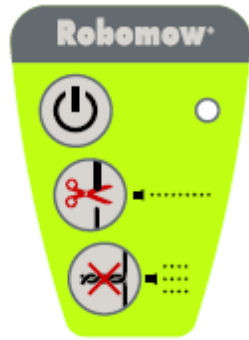

Figure 1.23 -
- Align the Base Station on the Perimeter Wire, so the wire is aligned with the two central lines marked at the front and rear side of the Base Station, as shown in Figure 1.23. Do not fasten the Base Station yet, as you will want to check its final position first.